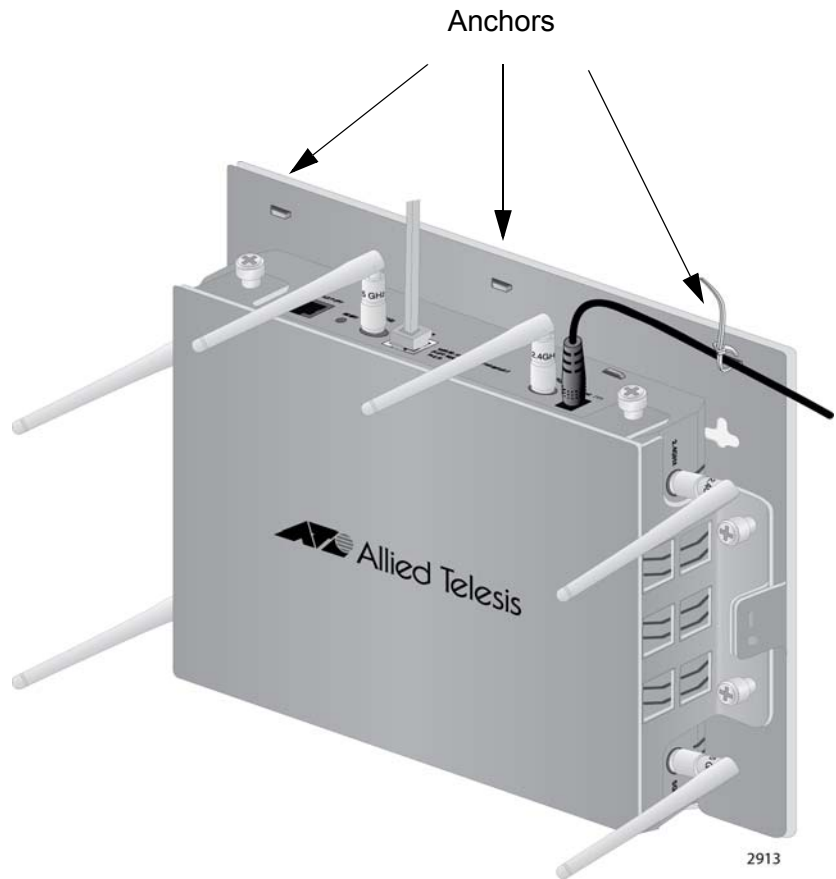

Figure 28. Securing the DC Power Cord to the AT-BRKT-J26 Bracket with the Tie Wrap
11. Secure the DC cable to one of the anchors on the bottom panel with the tie wrap that comes with the access point. Refer to Figure 28 on page 49.